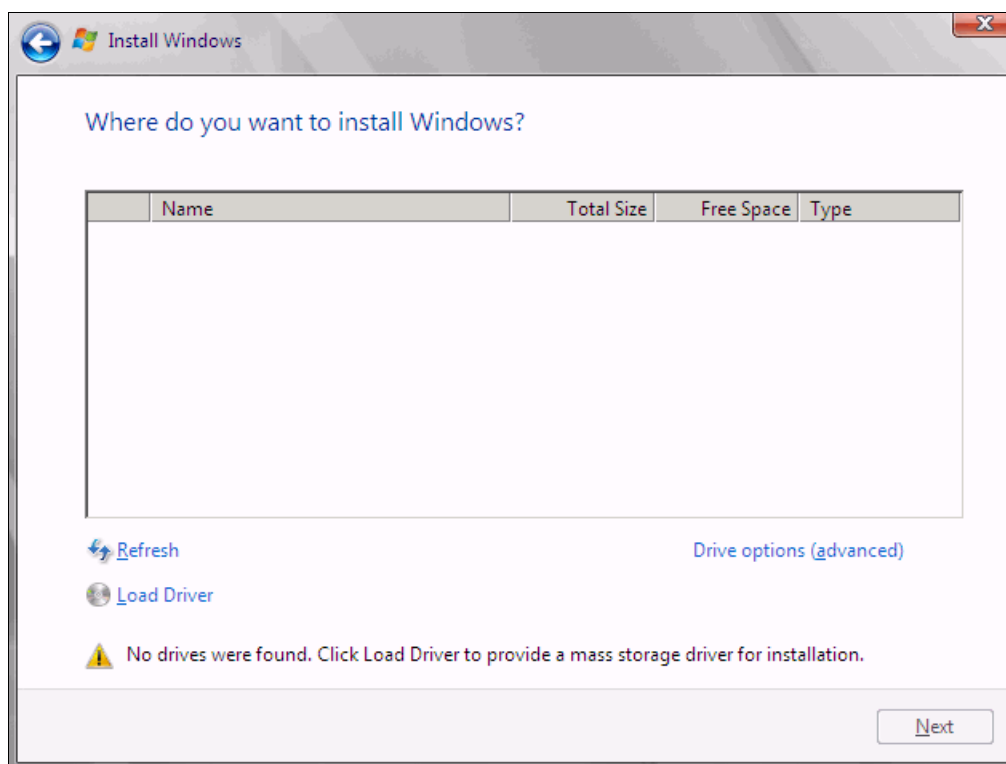

Figure 9-219 No drives found message
7. If no disks are displayed (Figure 9-219), insert the media that contains the drivers. The media can be in the form of a USB key, CD, or DVD, on a remotely mounted ISO. Then click **Load Driver** to load a driver for your storage device (Brocade card).